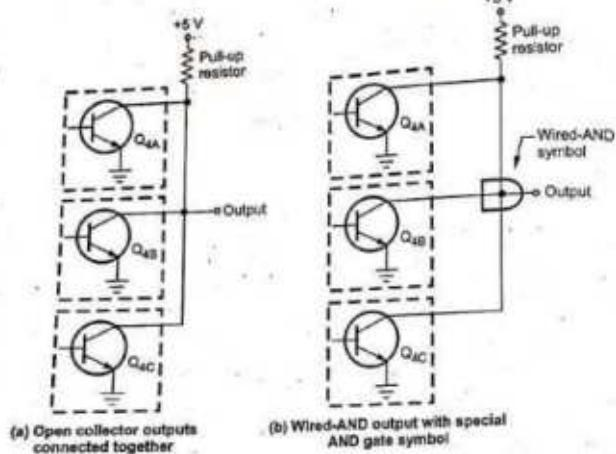

Fig. 3.3.11
- As mentioned earlier, the open collector outputs of two or more gates can be connected together, as shown in the Fig. 3.3.11 (a). The connection is called a wired-AND and represented schematically by the special AND gate symbol as shown in Fig. 3.3.11 (b). (See Fig. 3.3.11 on next page)